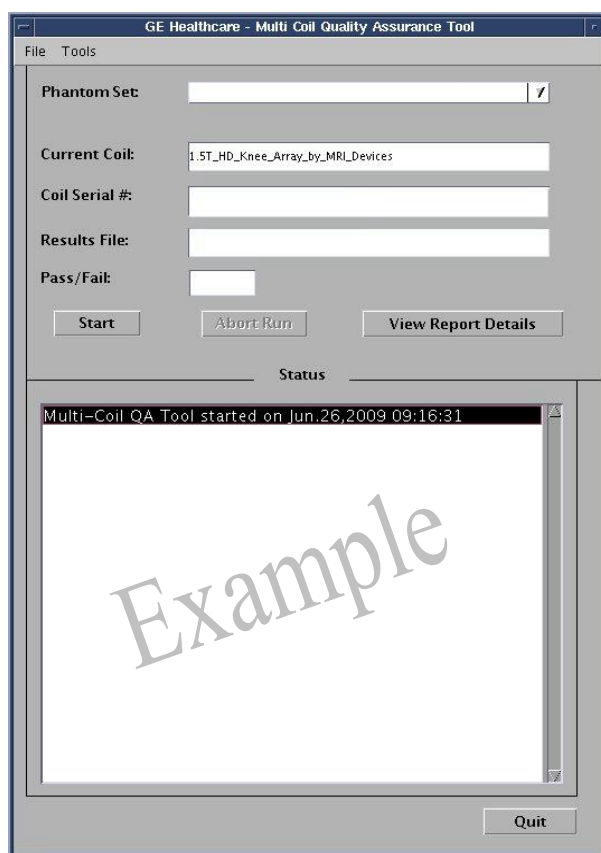

Figure 17
2. Upon start-up, the coil that is connected to the system gets selected in the *Current Coil* field as shown in *Figure 17*.